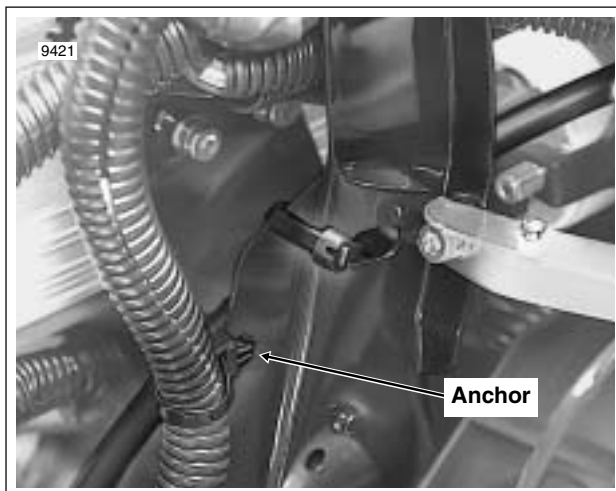

Figure 8-160. Anchor Convoluted Tubing of Headlamp Connector
4. Remove anchor on convoluted tubing of headlamp connector from hole in left fairing bracket. See Figure 8-160.
12. Install anchor on convoluted tubing of headlamp connector into hole in left fairing bracket. See Figure 8-160.